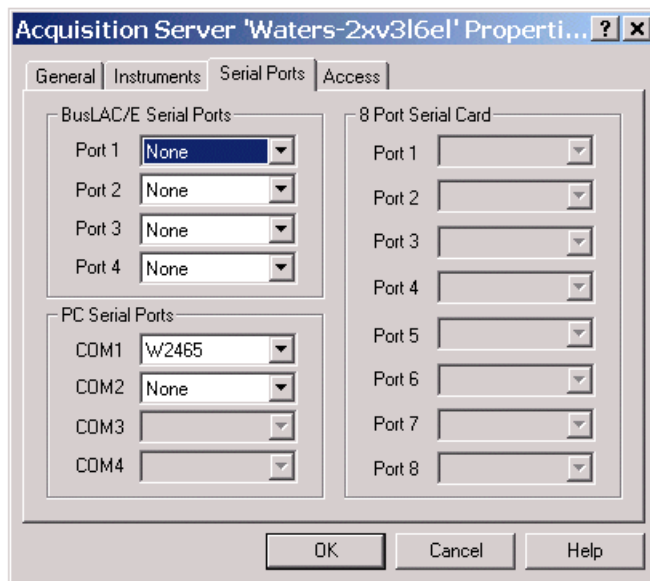

Figure 3-14 Acquisition Server Dialog Box
- b. Click the **Serial Ports** tab (Figure 3-14).